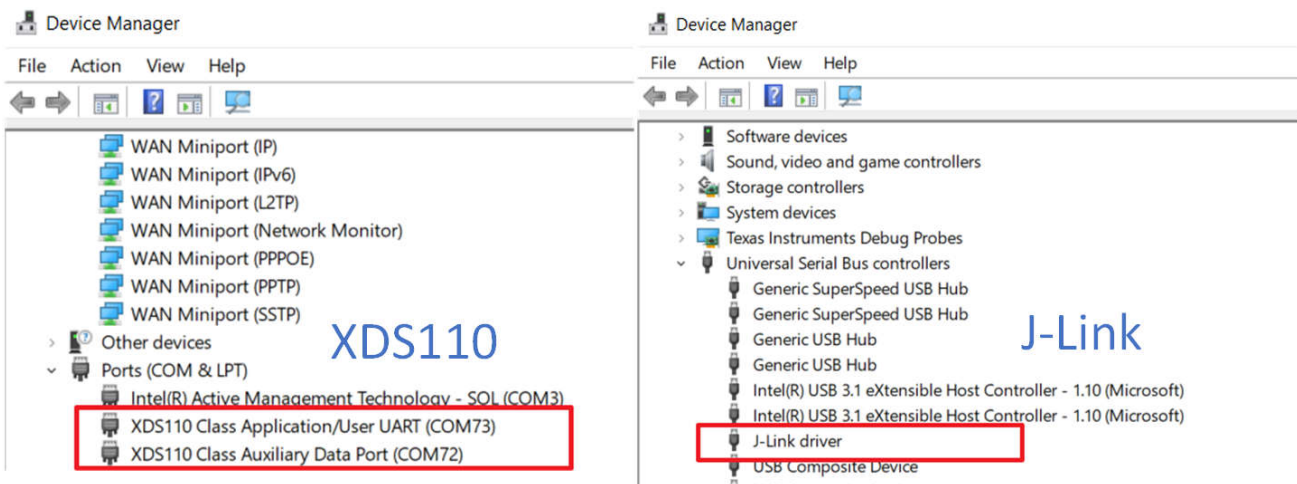

Figure 7-2. Device Manager View
2. Plug in the debugger and check whether the debugger is found by the computer. Check for computer limitations if the debugger does not show like Figure 7-2.